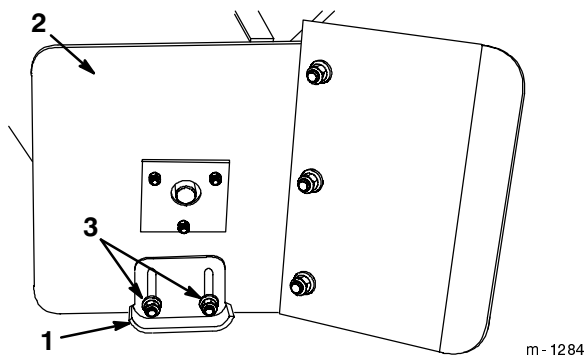

Figure 26
6. Loosen the nuts securing the skids to the housing until the skids slide up and down easily (Fig. 26).
7. Raise or lower the skids equally on both sides to obtain level scraping action, and tighten nuts securely (Fig. 26).